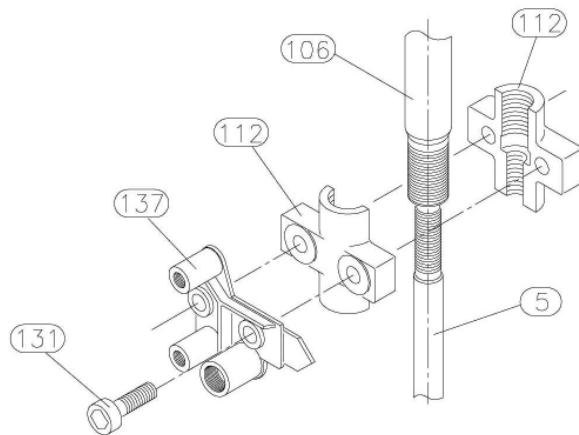
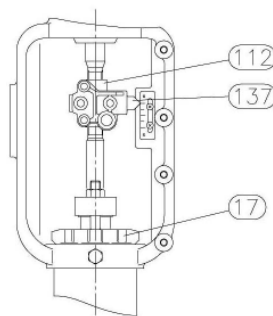

Fig. 12.
Fig. 13.
- Loosen the hex socket head bolt 131, which fastens the connector 112 shown in Fig. 12, to remove the indicator 137. The state is to be as shown in Fig. 13.
- Set the yoke in the same position as before disassembling it and fix it with the hex socket set screw 132. Then completely tighten the yoke nut to reverse direction as shown in Fig. 13. Use the same tools and procedure, which were used for separating them.